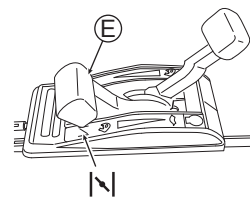

Fig. 10
3. Set Throttle lever (E) to Choking "N". (See Fig. 10) (The engine can start by setting the lever at "N" when it is warm.)